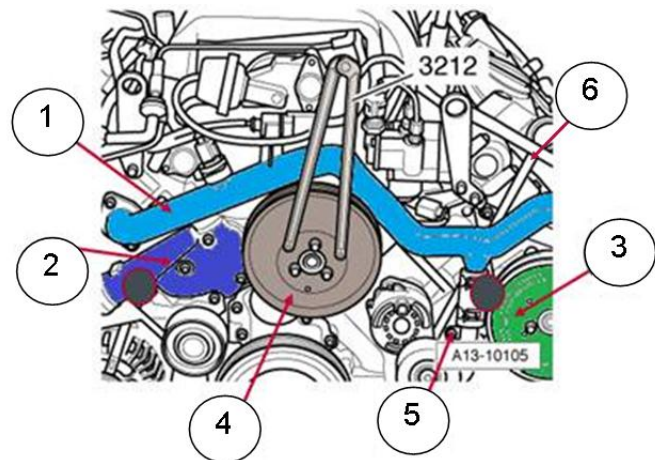

Figure 6. Engine component removal
- Coolant pipe (Figure 6,1)
- Coolant flange (Figure 6,2)
- Pulley and, if needed, bracket of power steering pump (Figure 6,3)
- Pulley of water pump (Figure 6,4)
- Coolant tube (Figure 6,5)
- Dipstick tube (Figure 6,6)
- Become familiar with the special tool set VAS6825 (Figure 6):